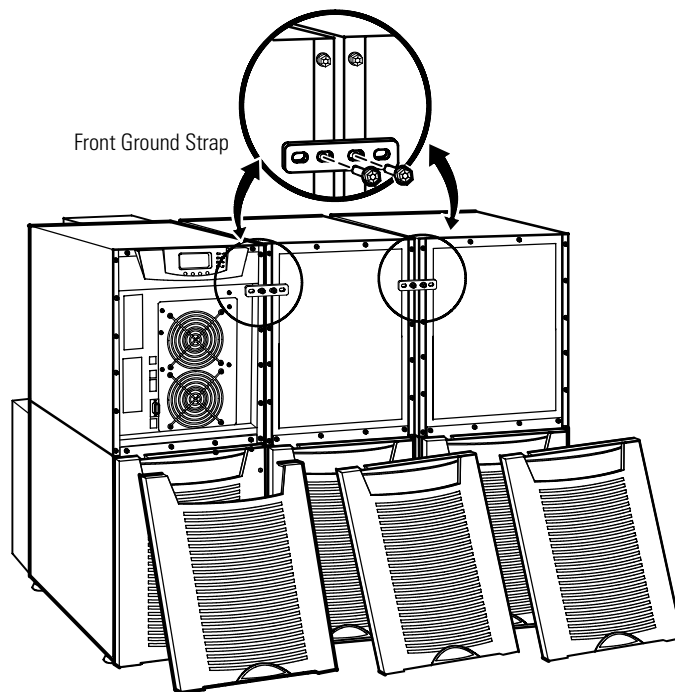

Figure 33. Front Ground Strap Installation (2-High Cabinets Shown)
9. Install the remaining ground straps between each cabinet (see Figure 33).